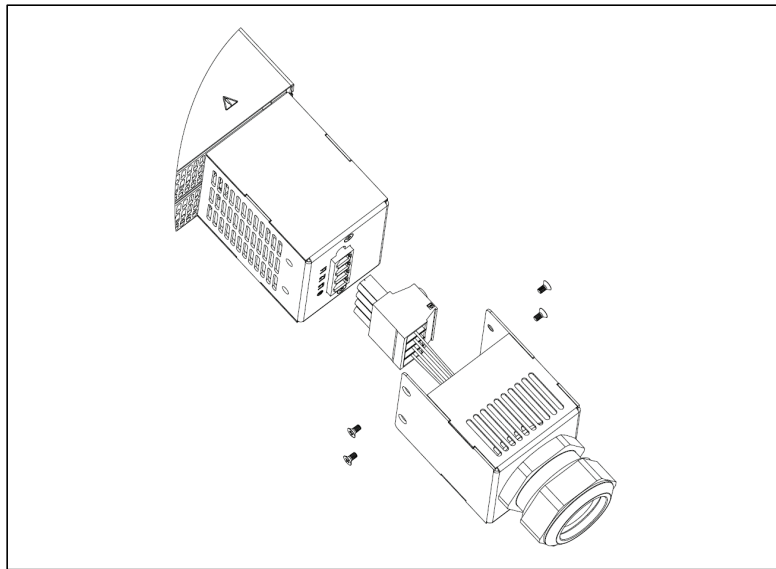

Figure 4-11: AC Wires Fixed to the AC Connector
6. Insert the AC wires into the AC input connector as shown in Figure 4-11 (10kW is shown, it applies to 15kW as well).